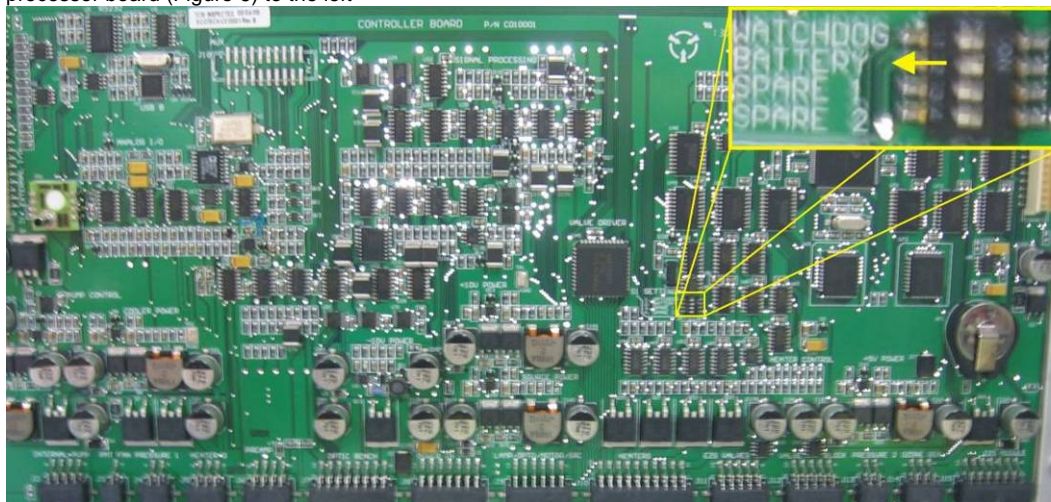

Figure 6. Switching battery off
- Check battery is turned on at main controller PCB (Figure 6)
*if storing over long period (6 months) turn the battery off by switching the following switch on the main processor board (Figure 6) to the left